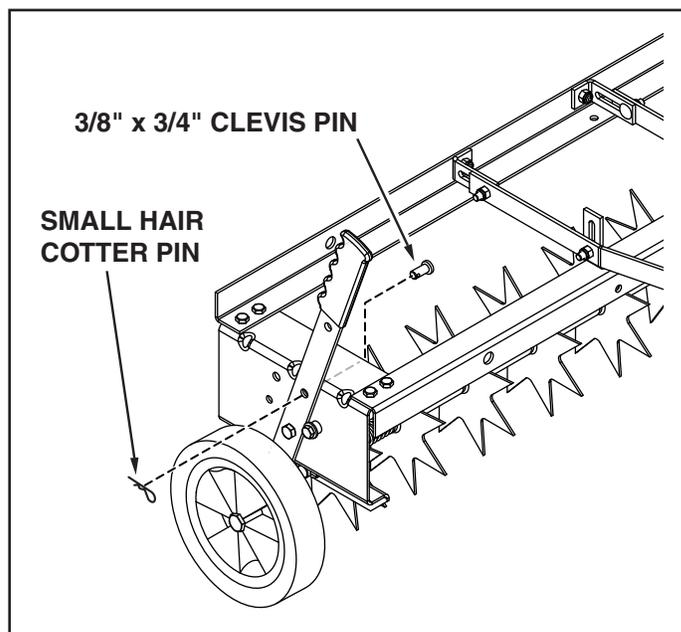

FIGURE 12
- Assemble a 3/8" x 3/4" clevis pin and a small hair cotter pin to the end plate and the handle on each end of the aerator to lock the handles in the transport position. See figure 12.